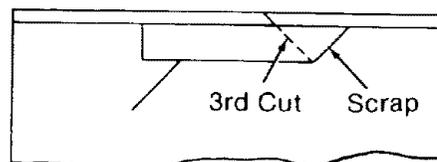

Fig. 121 - Making a 4-Sided Frame
3. Place the same edge of the workpiece against the fence for all cuts. Make the first cut at one end of the workpiece, then flip the workpiece over and make the second cut from the other end. Continue this way until all four cuts are made. (Figure. 121)